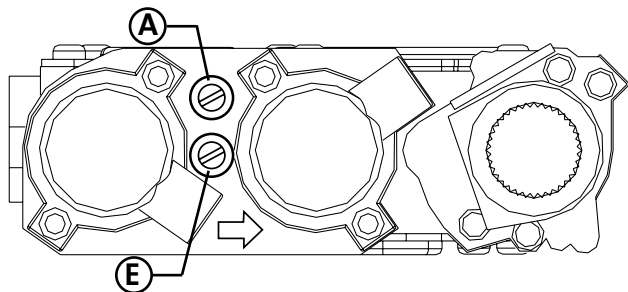

Figure 26. Pressure test points.
**Pressure Test:** Attach a manometer to the appropriate test point on the valve. See fig. 26. The gauge connections are located on the front of the valve. Connections are identified by: